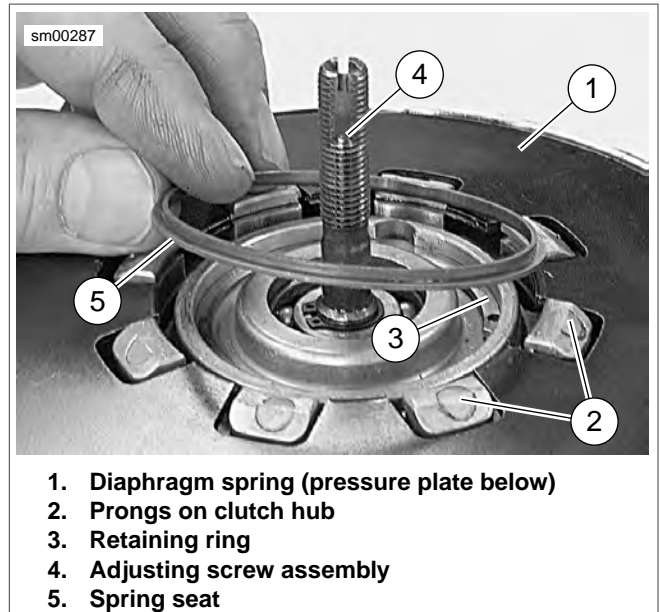

Figure 5-21. Spring Seat Installation
- a. See Figure 5-21. Align square openings of pressure plate and diaphragm spring so that the assembly can be installed over prongs on clutch hub.